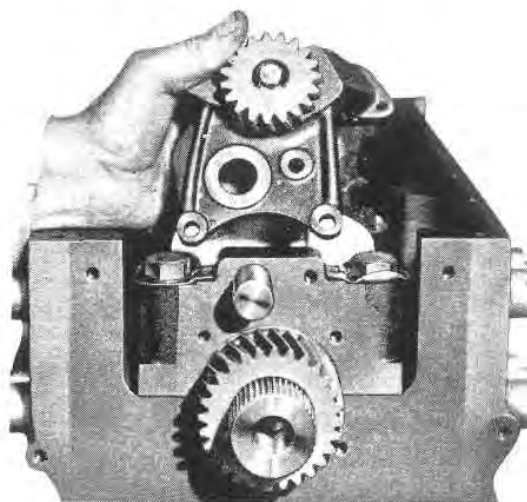

Fig. B56 — Removing the Oil Pump
7. Remove the three setscrews securing the pump to No. 1 Main bearing cap and withdraw the pump from the cap (Fig. B56).